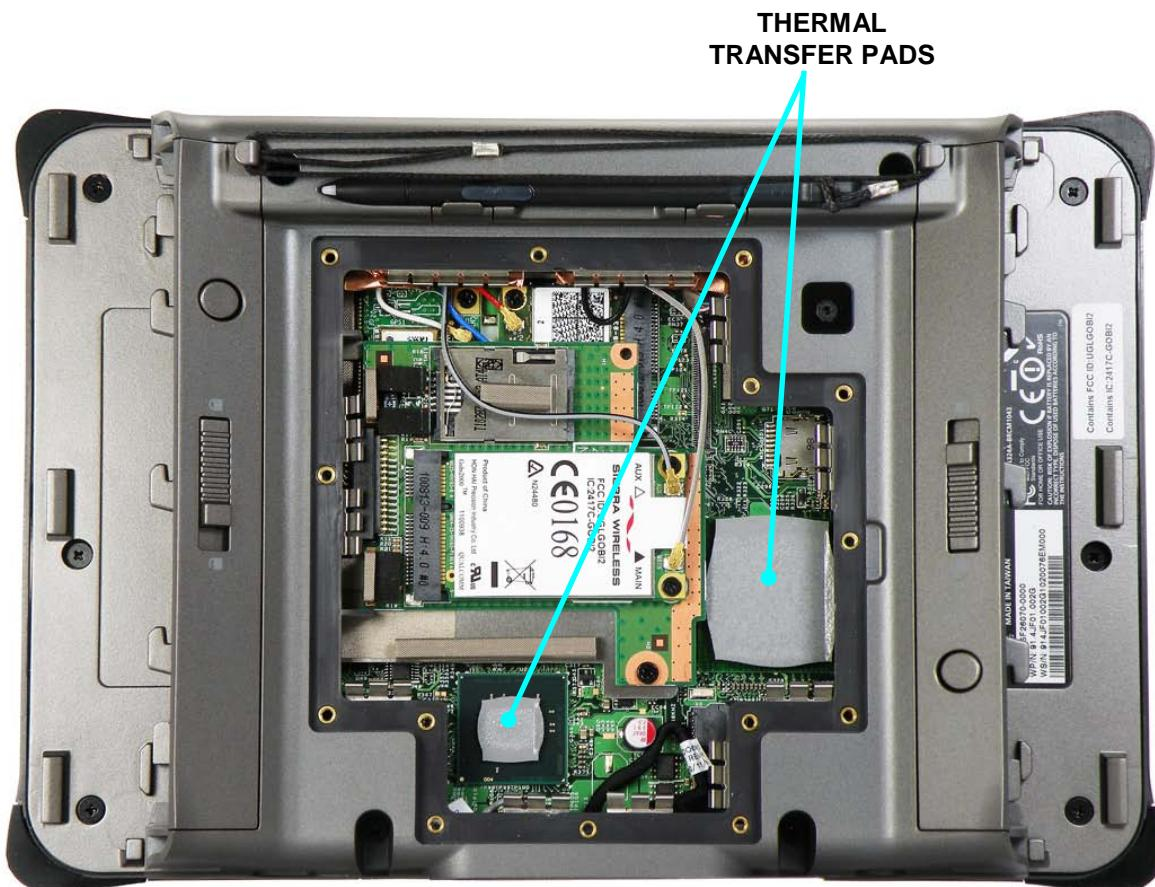

Figure 90. Thermal Transfer Pads
1.	If either thermal pad (Figure 90) is torn or punctured, gently remove it, being careful not to scratch the chip case.